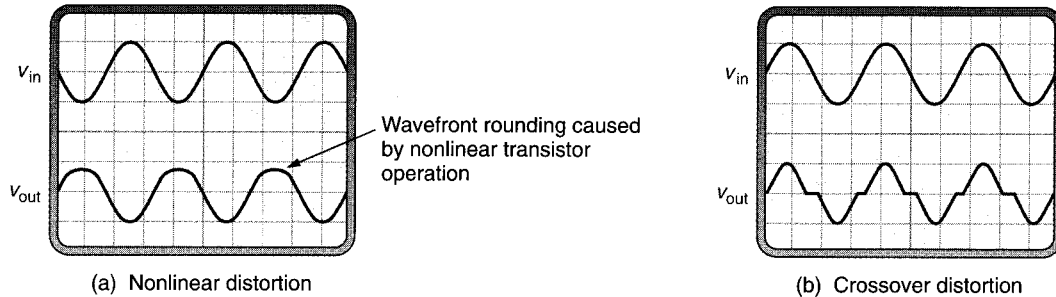

FIGURE 8.19 Waveform distortion.
**Distortion** is defined as *any undesired change in the shape of a waveform*. The waveforms shown in Figure 8.19 illustrate two different types of distortion that can be produced by amplifiers. As upcoming chapters will show, each of these types of distortion is characteristic of one or more of the amplifier classes.